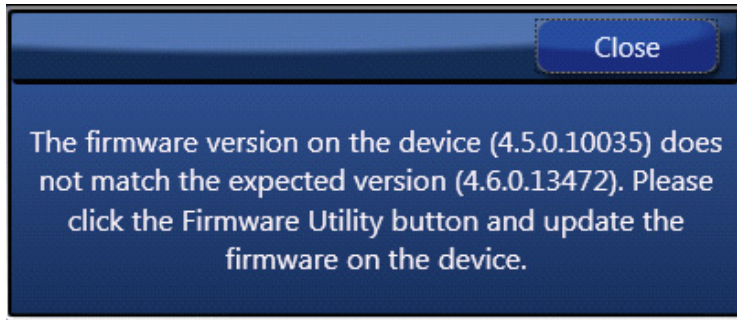

Figure 13. Firmware Version Mismatch Warning Message
- If ClockMatrix device's firmware, or firmware loaded from EEPROM, has a different version from that in the Personality file, a firmware version mismatch warning message will appear (see Figure 13). Click "Close" button to close the message window and a connection is made.